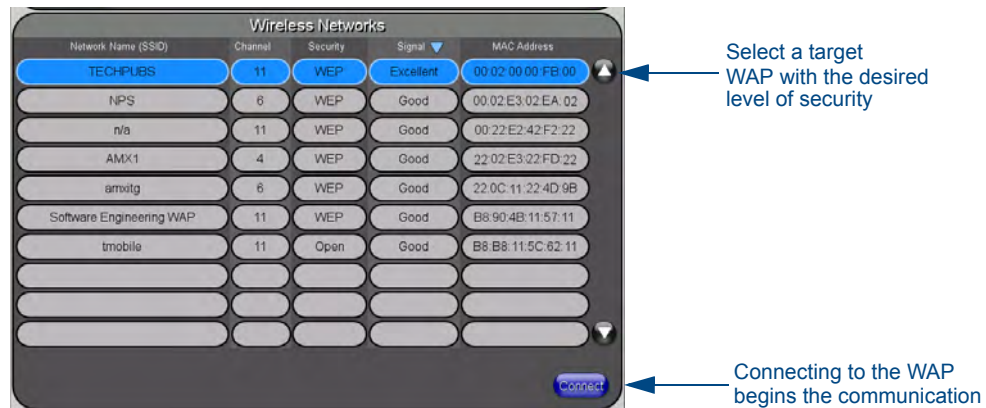

FIG. 24 Site Survey of available WAPs (Secured WAP shown selected)
3. Select a **WEP** secured WAP from within the *Site Survey* page, and press the **Connect** button (FIG. 24).